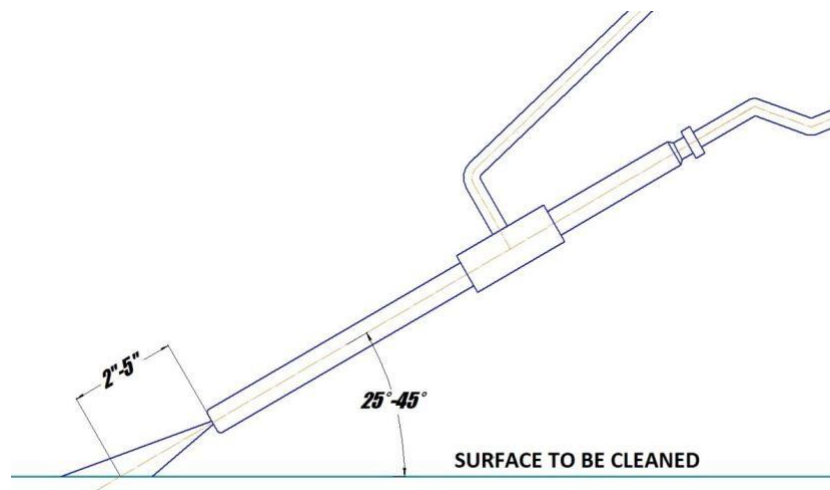

Figure 5.2 – Lance Position for Best Cleaning Results
Once the hydraulic power unit is operational and the water jet stream is flowing from the lance, the ROV operator has to find the most effective distance between the lance nozzle and the surface being cleaned. (See Figure 5.2)
2. The most efficient operating technique is to hold the nozzle 2-5 inches (5-12 cm) away from the surface to be cleaned and at a 25 to 45 degree angle to the surface being cleaned (See Figure 5.2). The ROV operator needs to observe the shape of the cavitating jet cone. At greater depths, the higher ambient pressure will cause the jet cone to be shorter. The widest zone of the cone is the most efficient part of the cavitating jet. Placing the nozzle closer than 2 inches (5 cm) from the surface being cleaned will not allow for efficient cavitation performance and will degrade the cleaning capability of the CaviBlaster system.